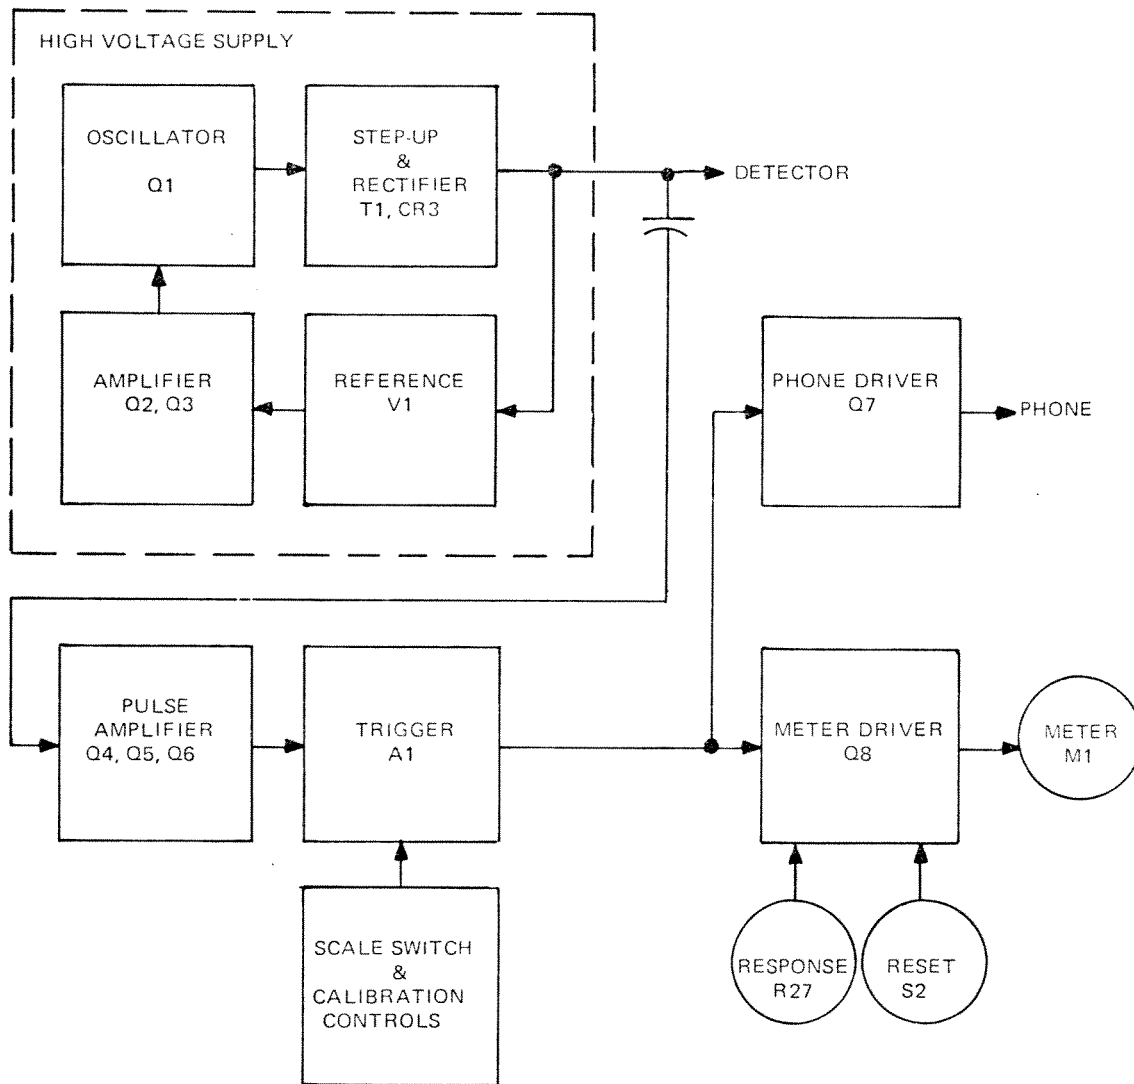

Figure 3-1. System Block Diagram
B. FUNCTIONAL THEORY (see Figures 3-1 and 6-1)